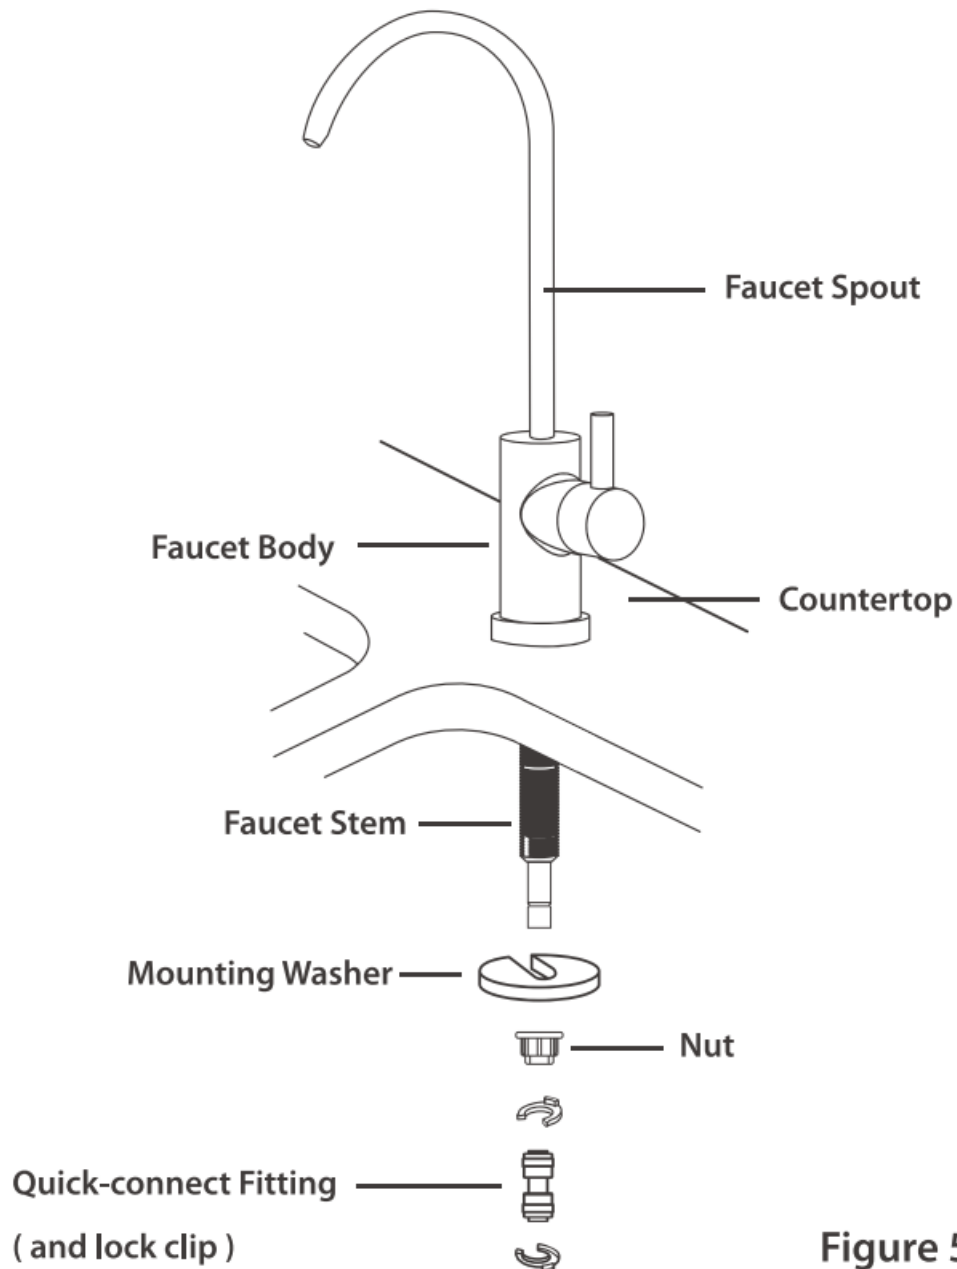

Figure 5
3. Under the sink, slip on other parts in the order shown in the picture (**Figure 5**);